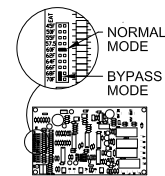

Figure 1
2. If the ambient temperature is at or above the Entering Air Thermostat (EAT) setpoint, note the setpoint position. Pull the jumper off the temperature setpoint (Normal Mode) and reinstall it sideways on the terminal block (Bypass Mode) as shown in Figure 1. Refer to the Individual Component Description section for additional information.